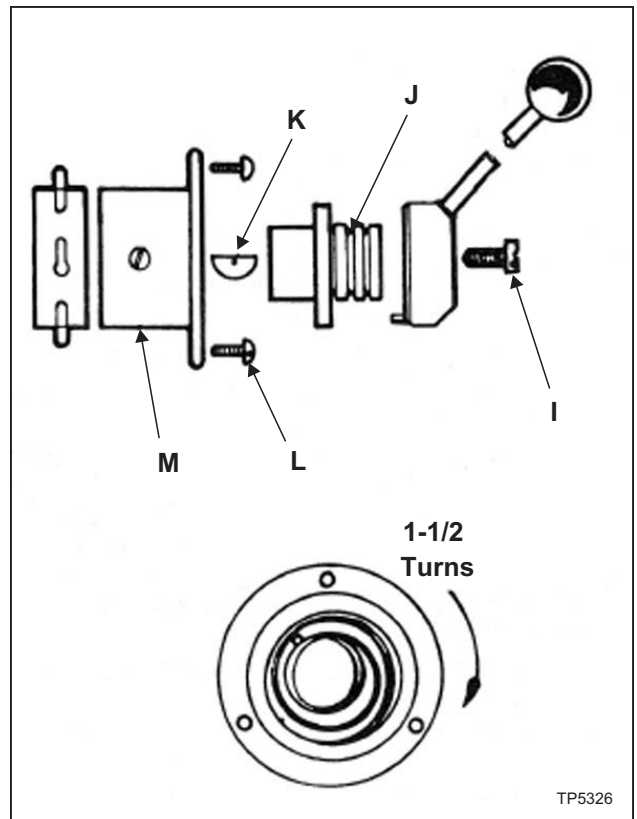

Figure 3.7 - Balance Spring Replacement
2. Remove screw "I", hub "J", and key "K", Figure 3.7.